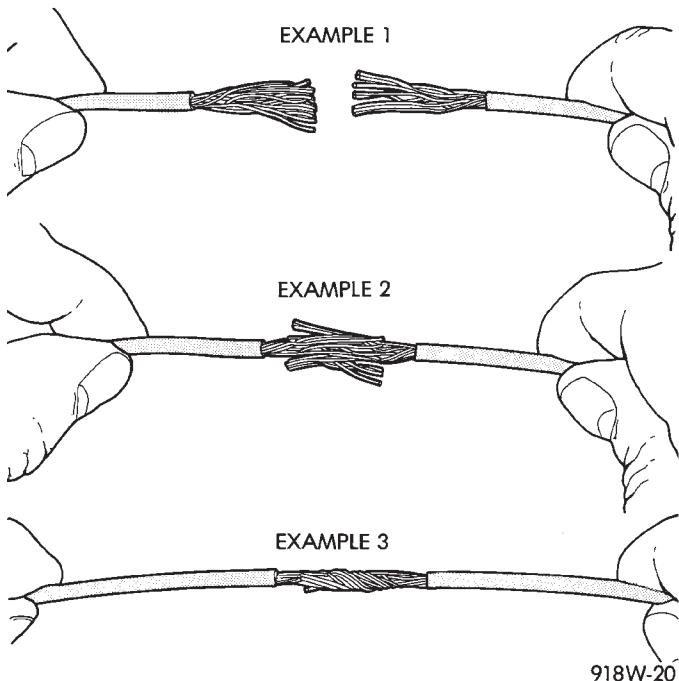

Fig. 11 Wire Repair
- (1) Disconnect battery negative cable.
- (2) Remove 1 inch of insulation from each end of the wire.
- (3) Place a piece of heat shrink tubing over one side of the wire. Make sure the tubing will be long enough to cover and seal the entire repair area.
- (4) Spread the strands of the wire apart on each part of the exposed wires (Fig. 11 example 1).
- (5) Push the two ends of wire together until the strands of wire are close to the insulation (Fig. 11 example 2).
- (6) Twist the wires together (Fig. 11 example 3).
- (7) Solder the connection together using rosin core type solder only. **Do not use acid core solder.**
- (8) Center the heat shrink tubing over the joint, and heat using a heat gun. Heat the joint until the tubing is tightly sealed and sealant comes out of both ends of the tubing.
- (9) Secure the wire to the existing ones to prevent chafing or damage to the insulation.
- (10) Connect battery and test all affected systems.
- (7) Remove 1 inch of insulation from each wire.
- (8) Place a piece of heat shrink tubing over one side of the wire. Be sure the tubing will be long enough to cover and seal the entire repair area.
- (9) Spread the strands of the wire apart on each part of the exposed wires (Fig. 11 example 1).
- (10) Push the two ends of wire together until the strands of wire are close to the insulation (Fig. 11 example 2).
- (11) Twist the wires together (Fig. 11 example 3).
- (12) Solder the connection together using rosin core type solder only. **Do not use acid core solder.**
- (13) Center the heat shrink tubing over the joint and heat using a heat gun. Heat the joint until the tubing is tightly sealed and sealant comes out of both ends of the tubing.
- (5) Cut the wire 6 inches from the back of the connector.
- (6) Remove 1 inch of insulation from the wire on the harness side.
- (7) Select a wire from the terminal repair assembly that best matches the color wire being repaired.
- (8) Cut the repair wire to the proper length and remove 1 inch of insulation.
- (9) Place a piece of heat shrink tubing over one side of the wire. Make sure the tubing will be long enough to cover and seal the entire repair area.
- (10) Spread the strands of the wire apart on each part of the exposed wires (Fig. 11 example 1).
- (11) Push the two ends of wire together until the strands of wire are close to the insulation (Fig. 11 example 2).
- (12) Twist the wires together (Fig. 11 example 3).
(13) Solder the connection together using rosin core type solder only. **Do not use acid core solder.**
(14) Center the heat shrink tubing over the joint and heat using a heat gun. Heat the joint until the tubing is tightly sealed and sealant comes out of both ends of the tubing.
(15) Insert the repaired wire into the connector.